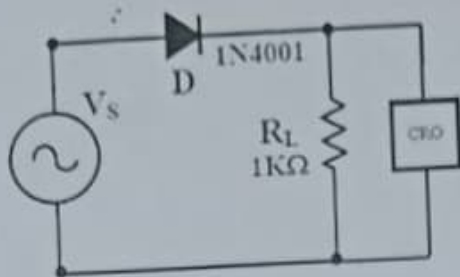

Fig.1
1. Build the following circuit (Fig. 1). Connect the oscilloscope to observe the voltage waveforms at the i/p of the circuit. 2. Adjust the vertical sensitivity controls for maximum on screen display on both channels with zero at the center of the screen. Draw the waveforms and measure the ac voltage across the secondary of the transformer and DC voltage across R_L with DMM. 3. calculate the theoretical value of the dc o/p voltage by using the formula $V_{dc} = V_m / \pi$ where V_m is the peak secondary voltage ($V_{dc} = 2V_m / \pi$ for full wave). Compare this value with the measured dc value of o/p. Connect the CRO across R_L . You must use DC coupling to properly show the output waveform, Note down its amplitude, V_o . 4. Increase the vertical sensitivity for maximum on screen display of the **positive part** of the waveforms. Set the horizontal sweep control for a display of two or three output pulses. **Draw the waveforms.** Measure ac voltage across the load resistor, R_L , with the DMM.